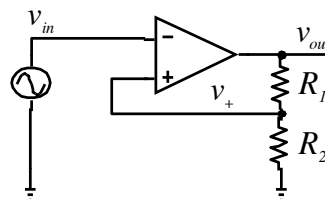

Figure 1.9: Comparator with hysteresis
- PE1. Perform a transient (time domain) simulation of the 'Comparator with Hysteresis' circuit in Figure 1.9. using values from step E5 in the experiment section. Run the simulation for 20ms. For the input signal, use a 0.2 kHz triangular wave of 20 V_{p-p}, it should be symmetrical, same slope for rising and falling edges, with no offset (i.e. the average of the triangle wave is 0).
Now consider the circuit in Figure 1.9. To illustrate the functionality, consider an input V_{in} of -15 V , and assume that the output v_{out} is saturated at $V_{omax+} = 15\text{ V}$. Then, with $R_1 = R_2 = 100\text{ k}\Omega$, we have $v_+ = 7.5\text{ V}$ because of the voltage divider. Thus, for v_{out} to switch to $V_{omax-} = -15\text{ V}$, v_{in} has to increase over $v_+ = 7.5\text{ V}$. Assume that v_{in} has gone over 7.5 V and is now at 8 V . Then, v_{out} will switch to -15 V and v_+ will now be -7.5 V . Thus, for v_{out} to switch back to V_{omax+} , v_{in} now has to decrease below $v_+ = -7.5\text{ V}$. This is how the switching threshold changes depending on whether v_{in} increases or decreases.